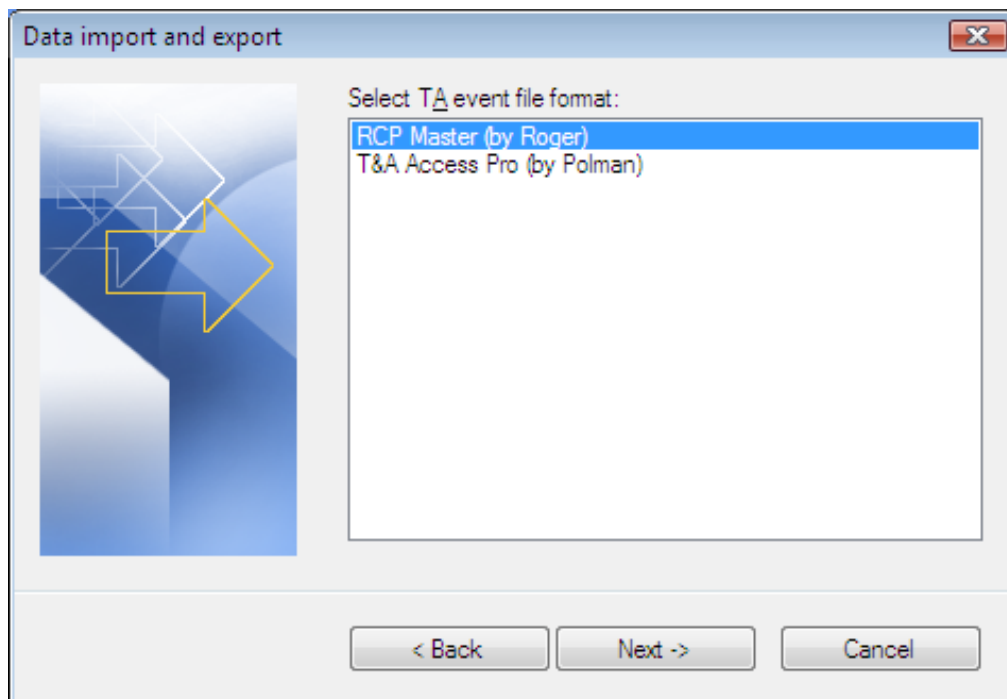

Figure 8. Data import and export wizard — step 2
- ◆ Step 2. Select data file format (when importing data from PR Master — Figure 8).